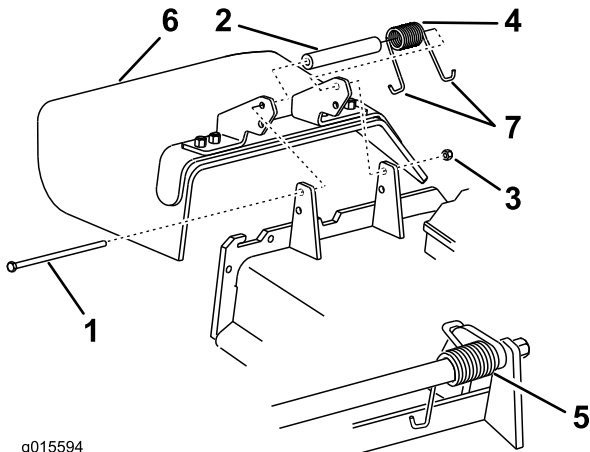

Figure 90
1. Remove the locknut, bolt, spring, and spacer holding the deflector to the pivot brackets (Figure 90).
**Note:** Make sure 1 J end of spring is installed behind deck edge before installing the bolt as shown in Figure 90.
6. Place 1 J-hook end of the spring around the grass deflector (Figure 90).